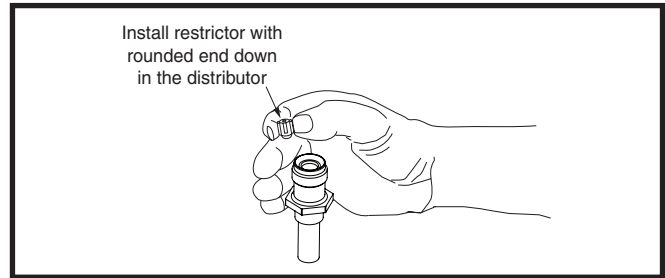

Figure 8. Restrictor Insertion into Distributor Body
4. Insert the new orifice into the distributor body, rounded end down. See Figure 8.